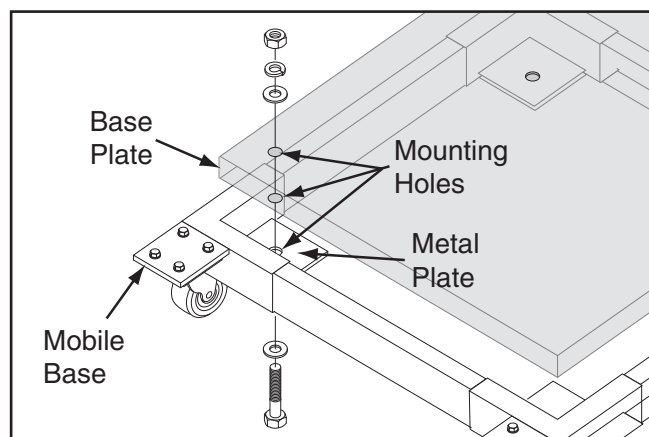

Figure 24. Example of mounting plywood base plate to mobile base.
If the footprint of the machine is too small for the mobile base or the machine doors or fixtures do not clear the side rails, you can mount it to a base plate, as shown in **Figure 24**.
3. Secure base plate to mobile base with $\frac{5}{16}$ " hex bolts, hex nuts, flat washers, and lock washers, as shown in **Figure 24**.